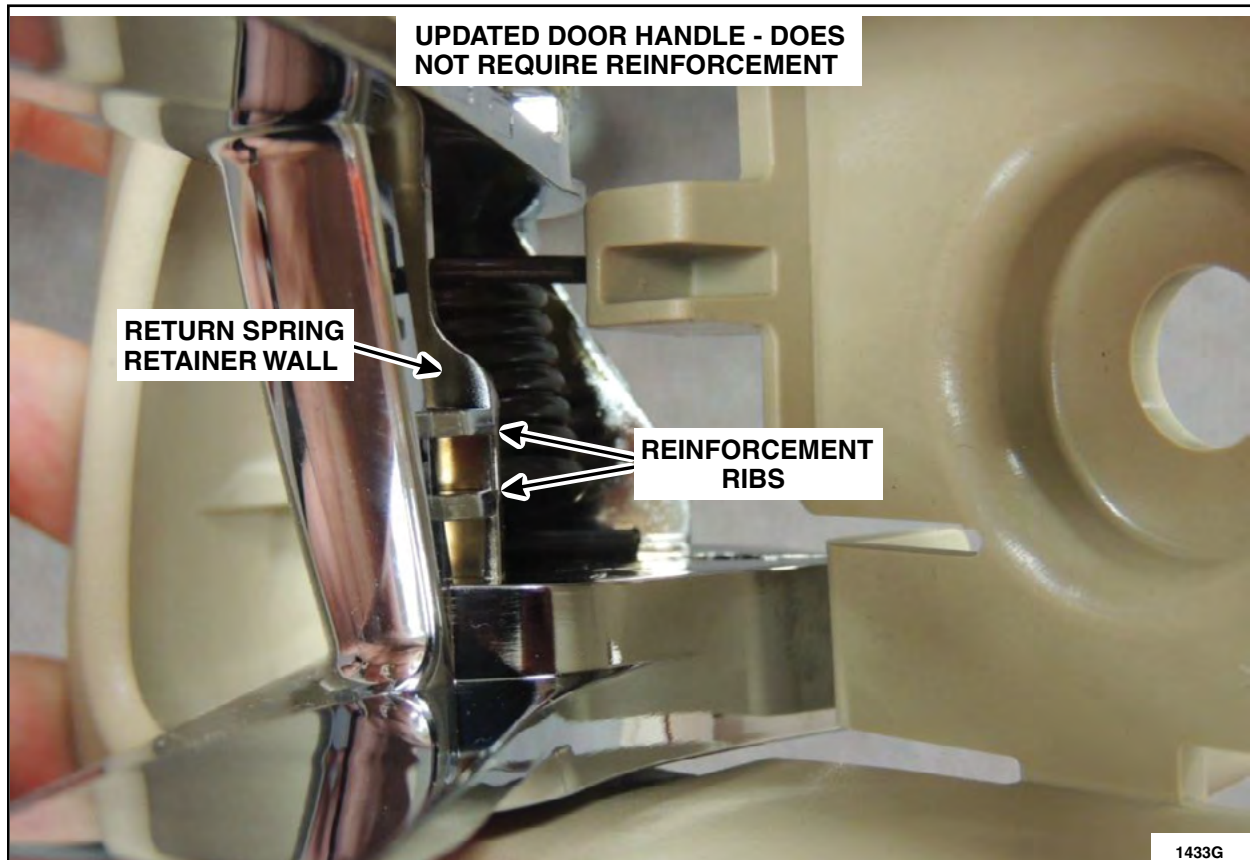

FIGURE 3
3. Interior door handle is equipped with two (2) reinforcement ribs on the return spring retainer wall. See Figure 3.